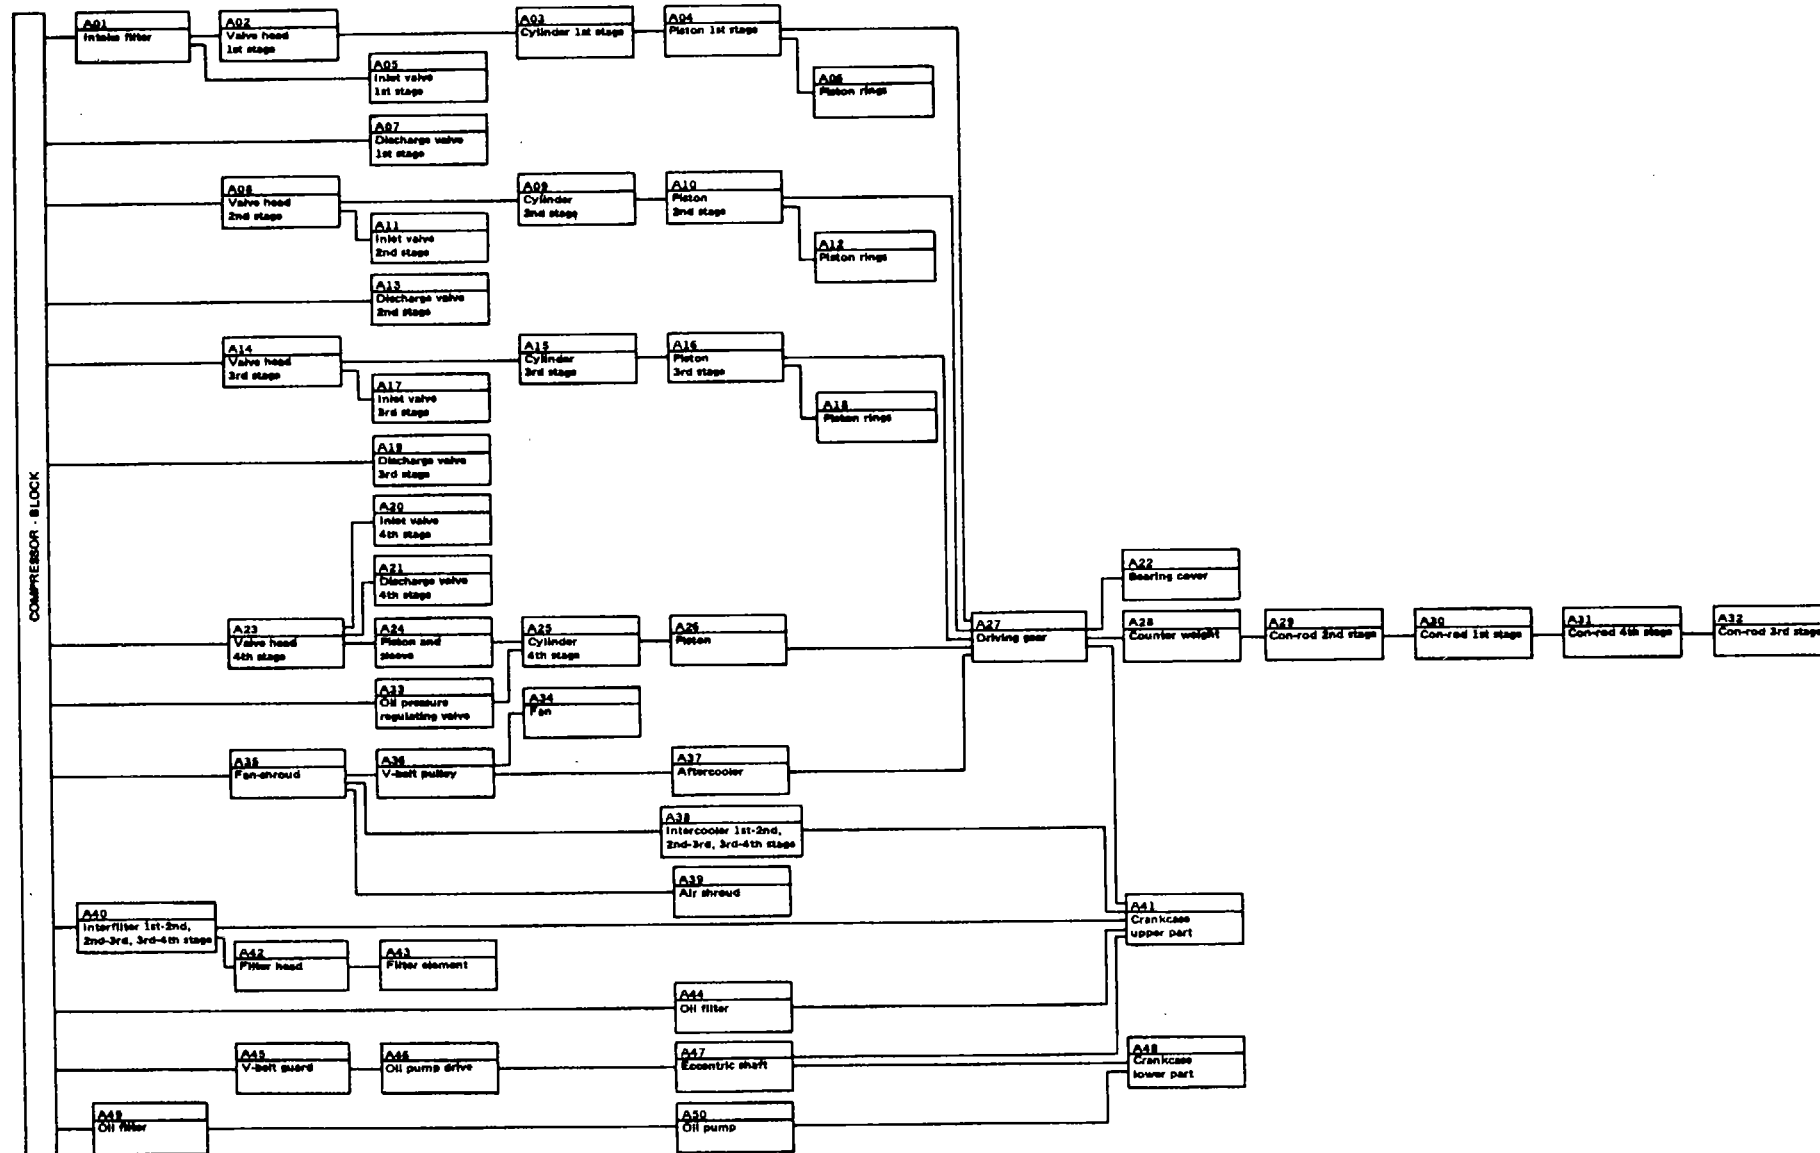

Figure 6-44. Work Sequence Plan
The compressor block disassembly work sequence plan (Figure 6-44) is provided to serve as a guide in disassembling the compressor block. With this plan the work sequence for each repair can be clearly seen. The individual assembly groups are illustrated in the work sequence plan by fields.
- a. See sequence plan. (Figure 6-44).
6-16. EXAMPLE (See Figure 6-44)